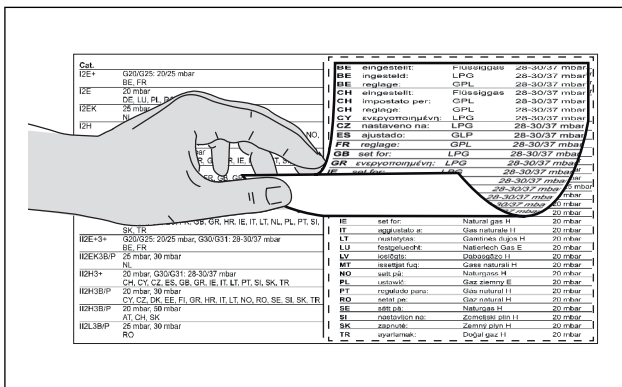

Fig. 4.46 Affixing the nozzle set nameplates
- ▶ Affix the nozzle set nameplates supplied in the space provided above the nozzle nameplate on the bottom of the cooktop (see fig. 4.46) and on the inside of the back cover of the operating instructions.